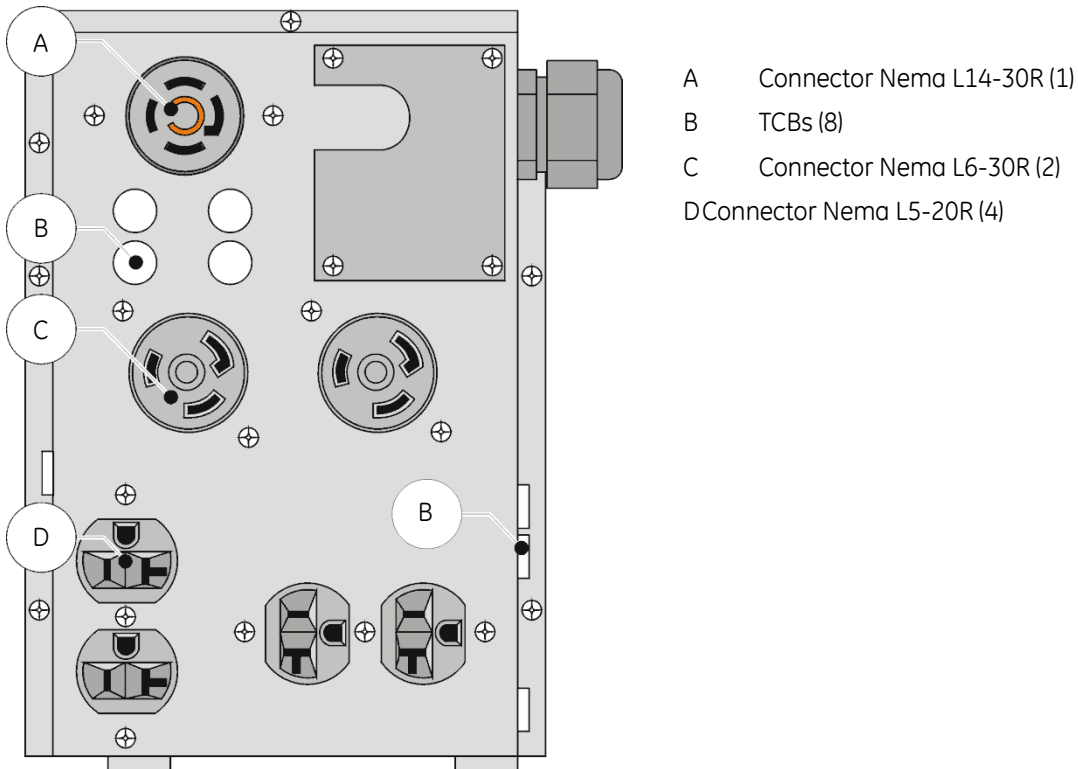

Fig. 23: Power Distribution Module
This Power Distribution Module (PDM) contains 4 x Nema 5-20R, 2 x Nema L6-30R and 1 x Nema L14-30 R Power sockets (see fig. 23). The PDM replaces the conduit box (17), and converts the LP-U into a pluggable UPS. Only qualified personnel is allowed to install the PDM.